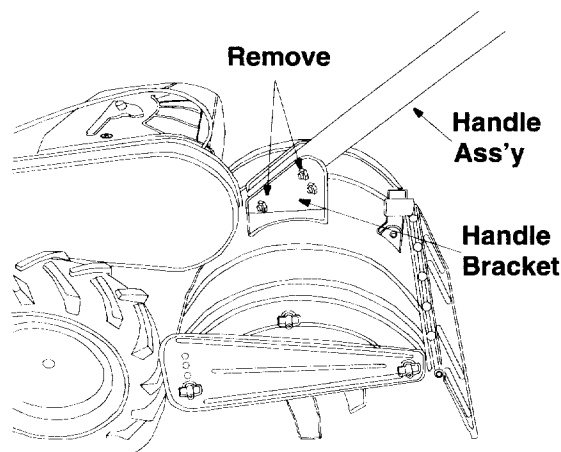

Figure 4
1. Remove top two bolts and flange lock nuts from handle mounting brackets as shown in Figure 4. Do not remove the bottom bolt and nut.
2. Place handle assembly in position between the handle mounting brackets. See Figure 4.